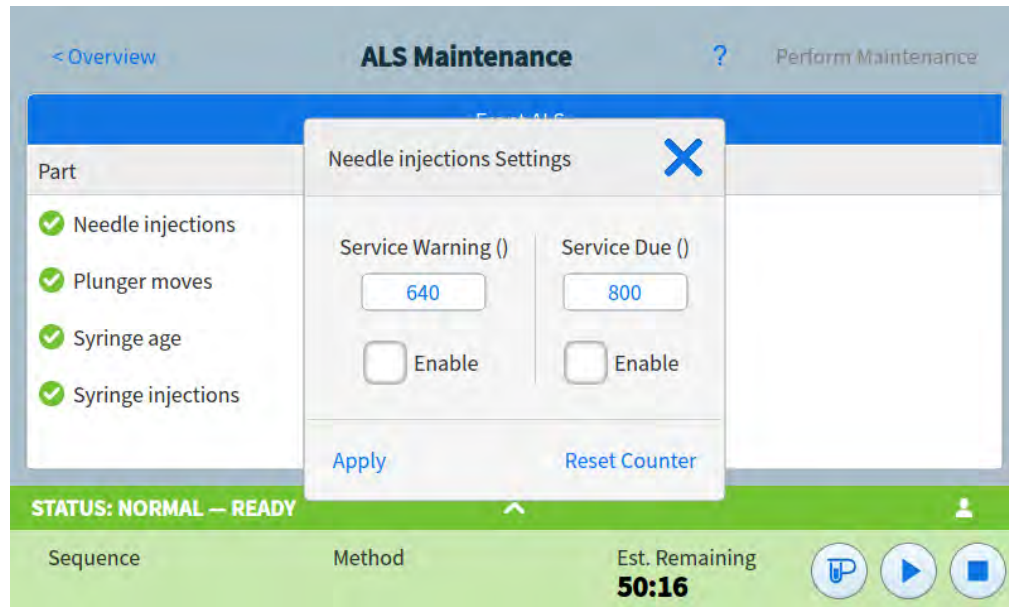

Figure 35. Settings dialog box
- 2 Select the Component listing for the counter you want to change. See **Figure 35**.